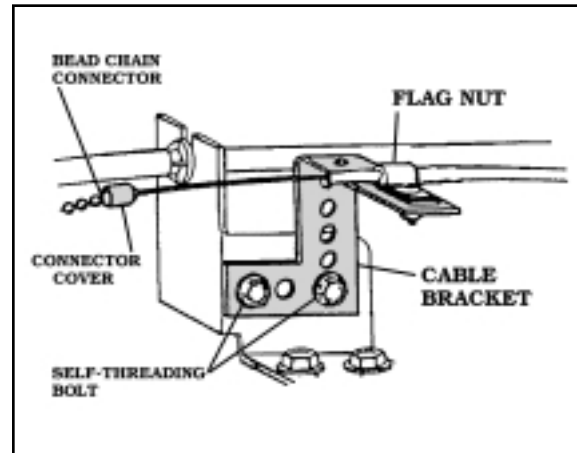

FIGURE 30
4. THE **FLAG NUT** MAY ALSO BE USED TO ANCHOR THE **CRUISE CABLE** USING THE **CABLE BRACKET**. **FIGURE 30**